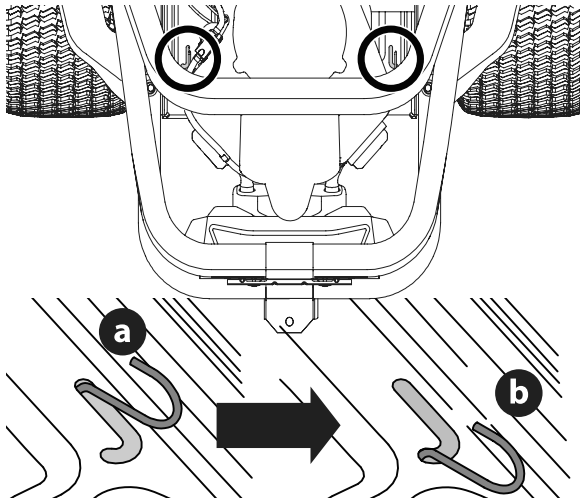

Figure 1
1. To engage the transmission bypass rods, pull the rod back (a) and into lower section of "J" slot (b). Repeat on opposite side (Figure 1).